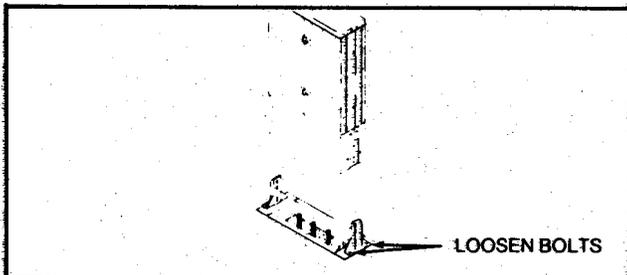

Fig. 18g
- (1) After the concrete has cured sufficiently, loosen the bolts that secure the support legs. (See Fig. 18g.)